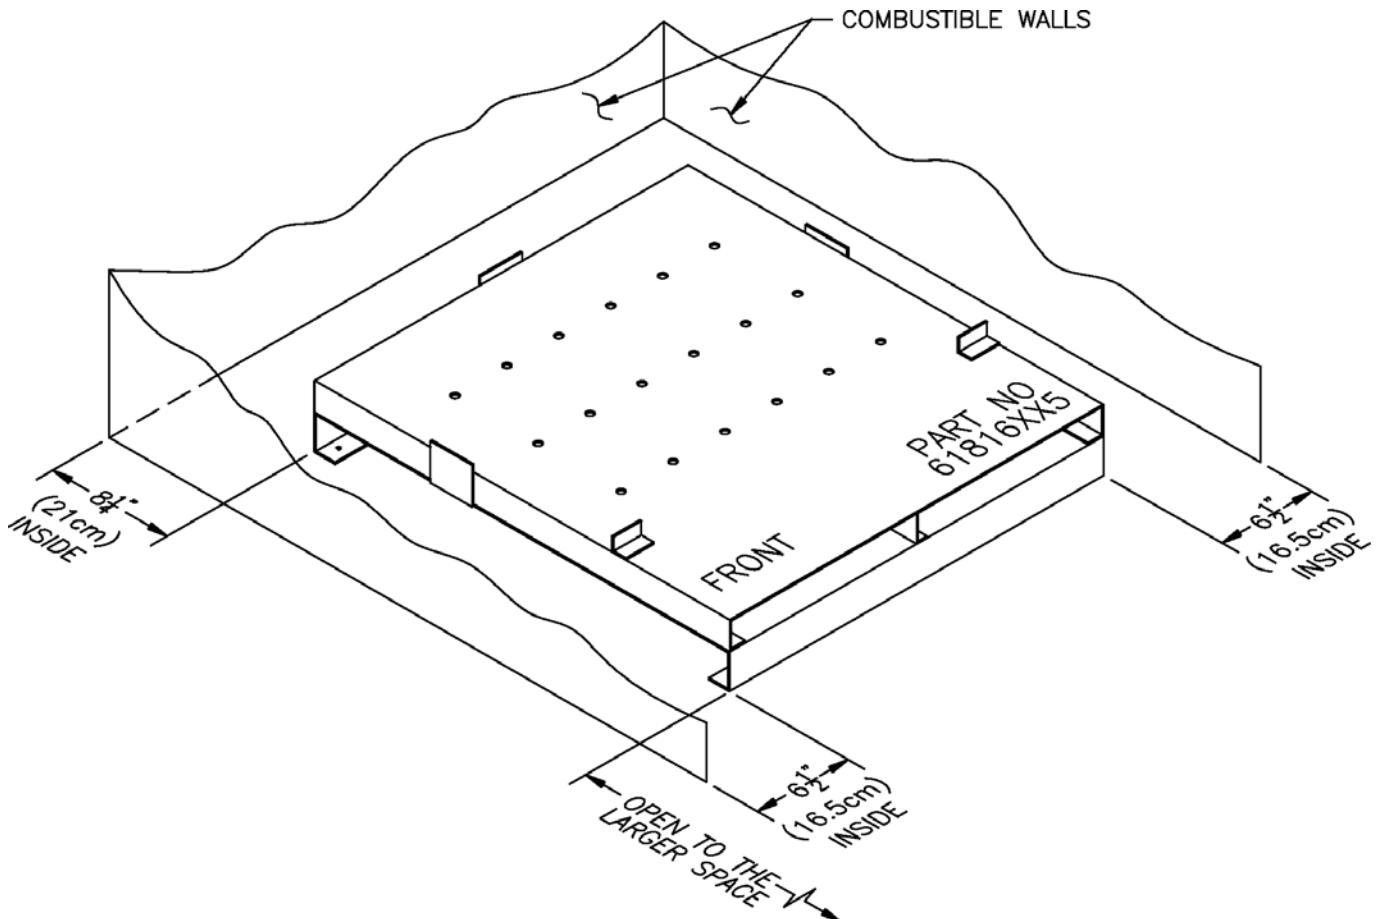

Figure 4: Installation of Special Base for Combustible Flooring
E. Install special base if installation is on combustible flooring. See Figure 4. Floor shield adds $4\frac{3}{4}$ " to boiler height.
- Locate special base with spacing to combustible materials as shown in Figure 4.
- Do not enclose boiler (including special base) on all four sides. Models 807HE may be enclosed on three sides (alcove) while maintaining clearances shown in Figure 4.